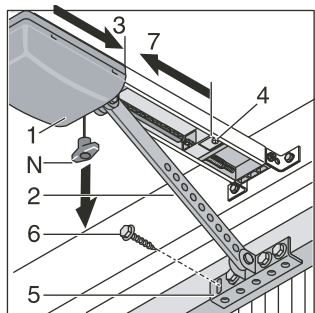

Fig. 18
Fig. 18 Fix (3) the door corner fitting (1) onto the rod, in a longitudinal direction with respect to the position of the motor. Unlock the motor by pulling the manual release (N).